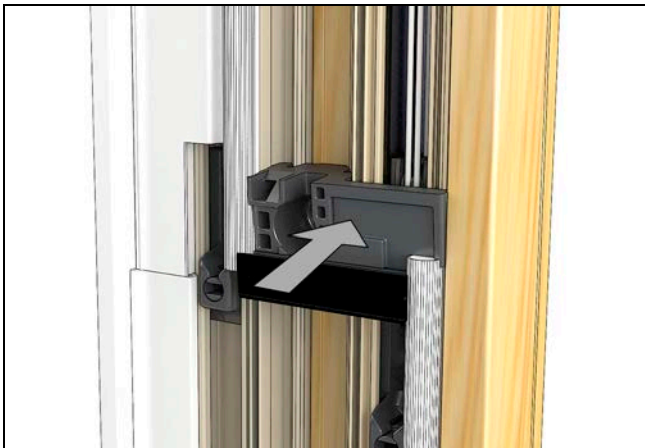

Figure 26
5. Install jamb receiver assembly onto jamb, making sure that it is properly aligned with alignment hole in jamb and pressed firmly against jamb. See Figure 26.